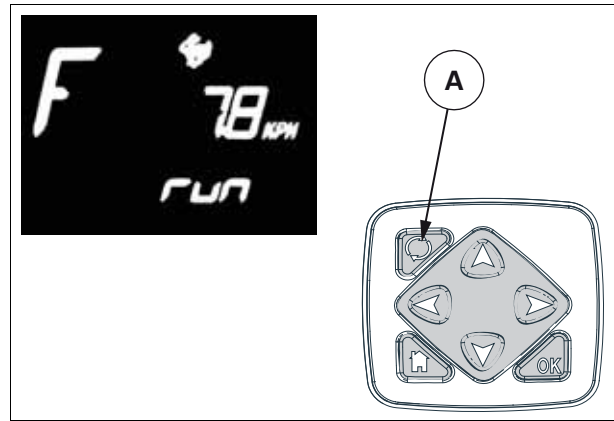

Fig. 34.
6. "run" should appear on the screen fig. 34.
7. Press the display selector switch (A) when the finish line of the course has been passed.
8. Press the display selector switch (A). The constant forward speed (theoretical) measured during calibration is displayed.
9. Press the display selector switch (A) again. The actual constant forward speed (radar) measured during calibration is displayed on tractors fitted with radar.
10. Press the display selector switch (A) one final time to return the instrument panel to normal operating mode.